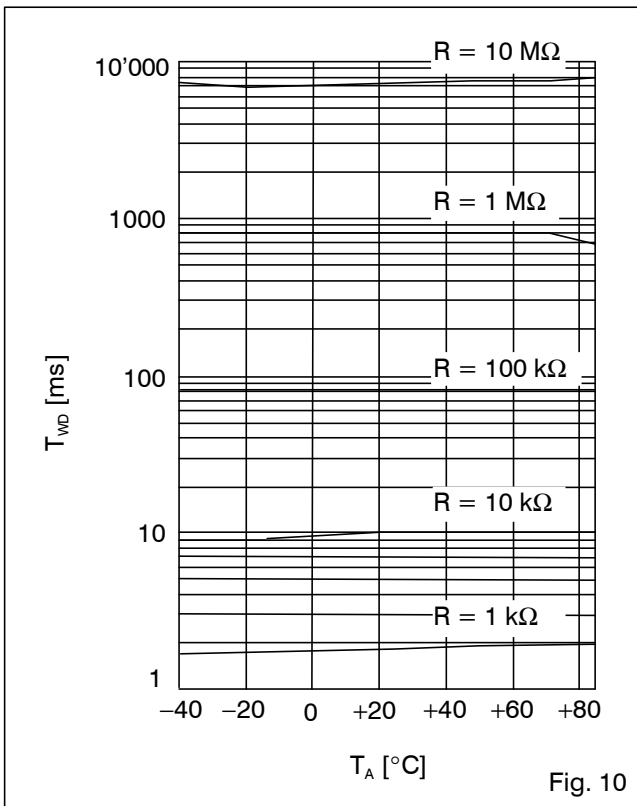
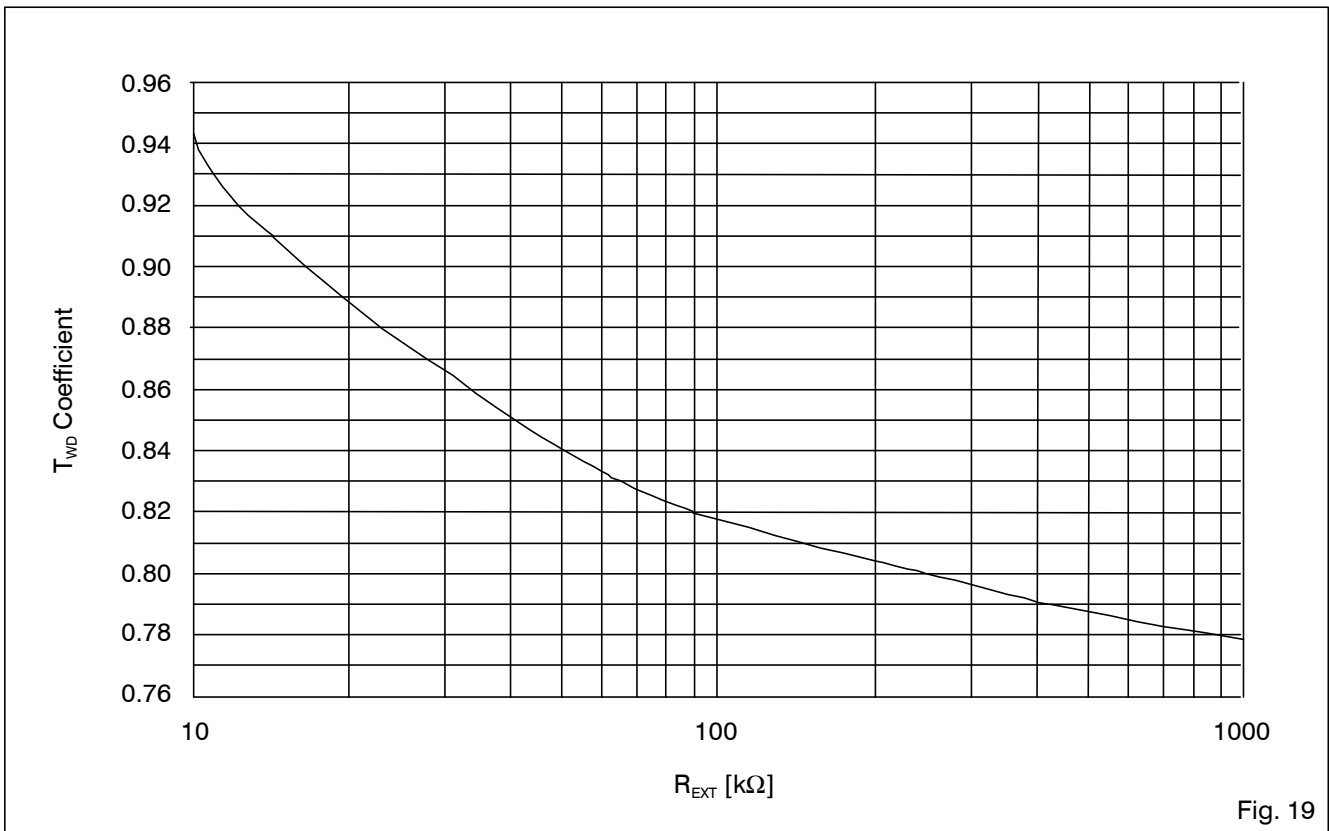
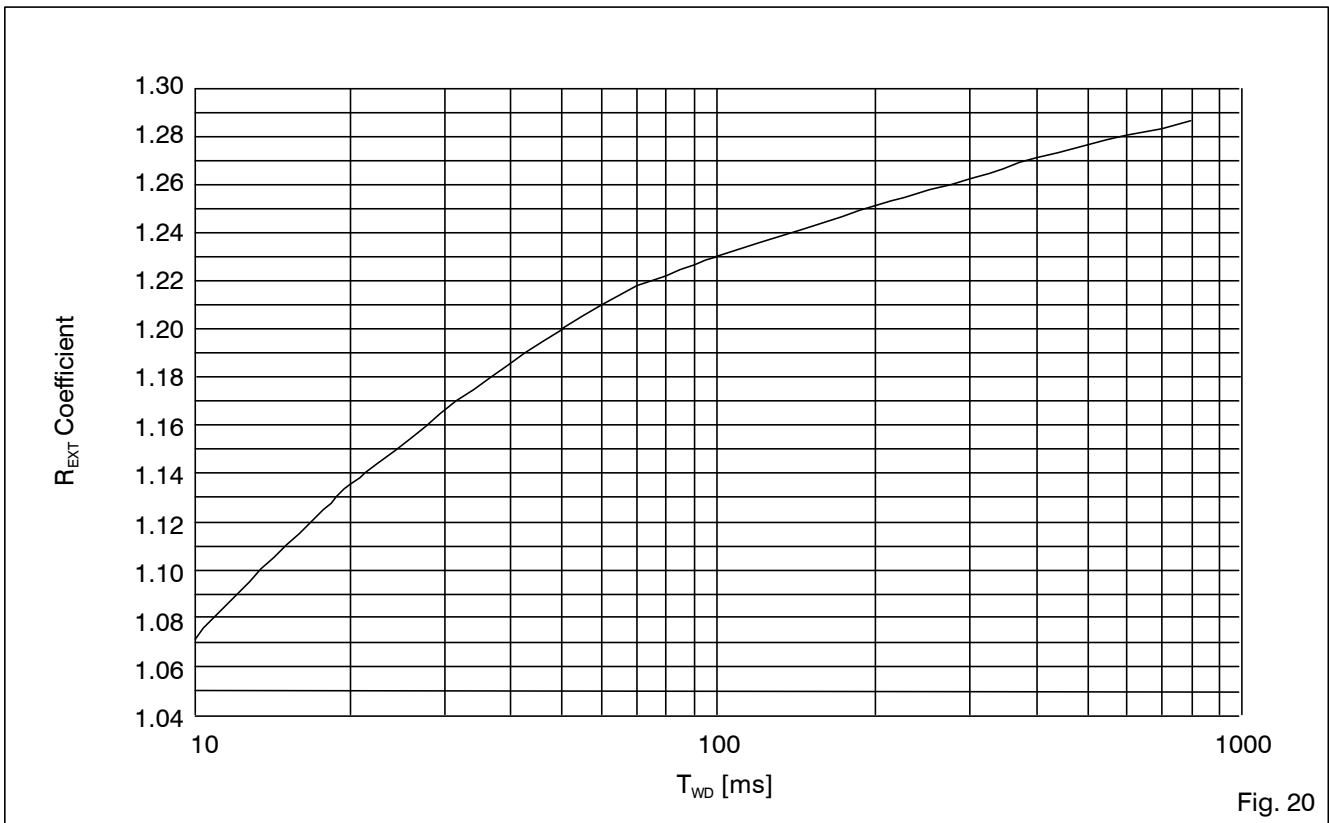

Fig. 10
Fig. 19
Fig. 20
Related to curves (Fig. 10 to Fig. 20), especially Fig. 19 and Fig. 20, the relation between  $T_{WD}$  and  $R_{EXT}$  could easily be defined. Let us take an example describing the variations due to production and temperature:
- Related to Fig. 20, the coefficient ( $T_{WD}$  to  $R_{EXT}$ ) is 1.155 where  $R_{EXT}$  is in  $k\Omega$  and  $T_{WD}$  in ms.